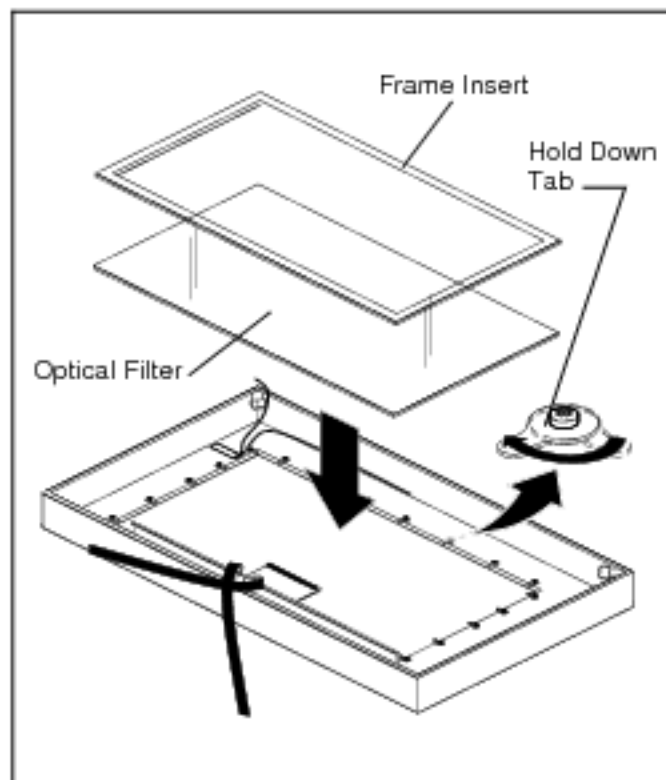

Figure 10
4. Carefully install optical filter into frame. (See Figure 10)
6. Turn hold down tabs until positioned over lens. (See Figure 10)